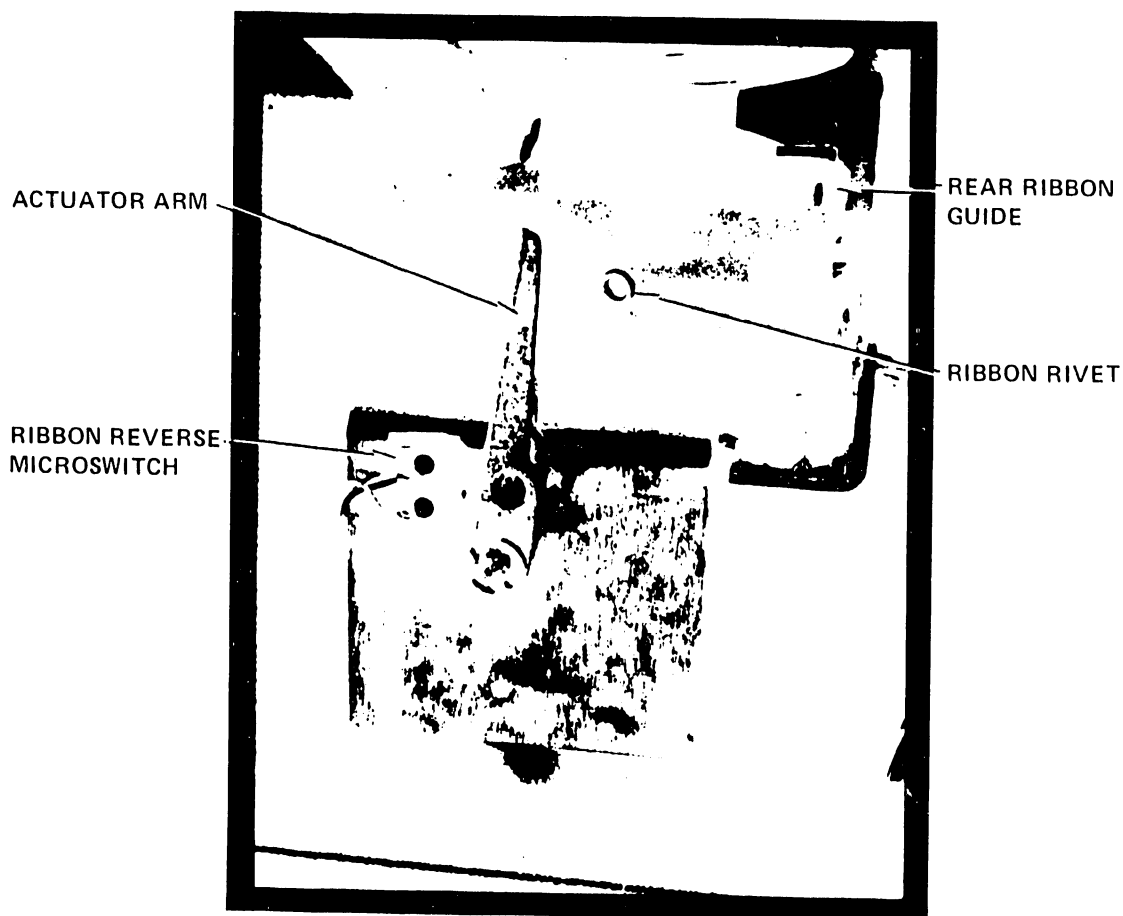

Figure 3-6. Ribbon Reverse Actuator
3. One of the two metal ribbon rivets should be visible near the empty ribbon spool. Ensure that this rivet is behind the reverse actuator to prevent it from moving in front of the print heads during printer operation. See Figure 3-6.